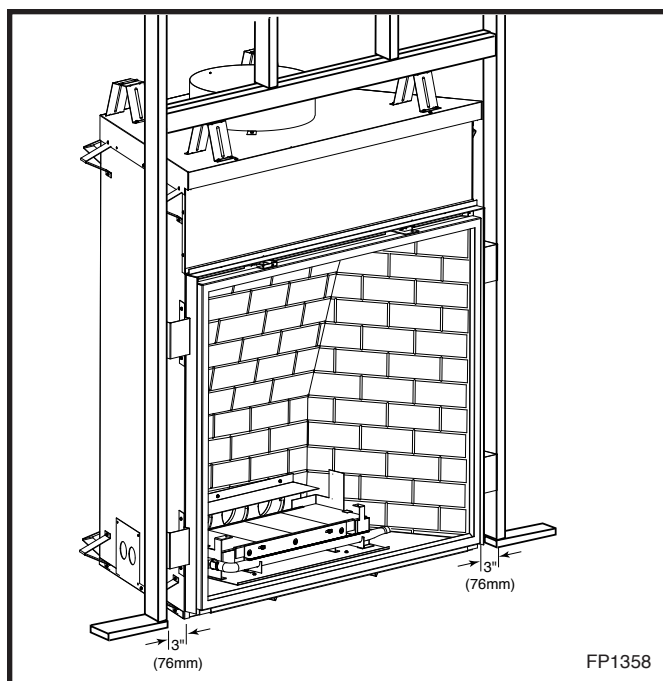

Fig. 6 Fireplace framing.
3. Frame the fireplace with a header across the top of the standoff. (Fig. 6) It is very important to allow for the finished wall face along with marble, tiles or any